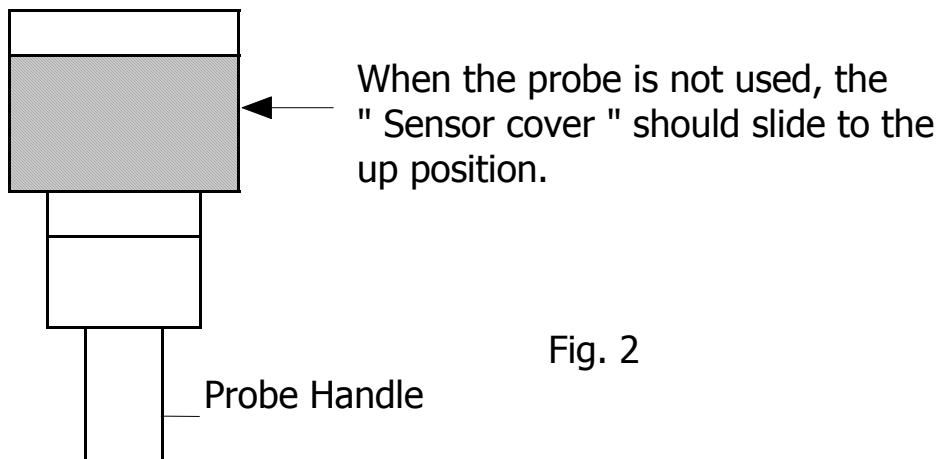

Fig. 2
- a. When slide the sensor cover of " Sensing Head " (3-20, Fig. 1) to the up position to let the air velocity sensor isolated from the environment (refer Fig. 2).***